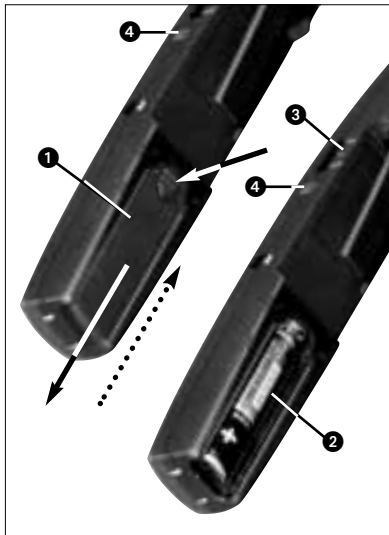

Fig. 2: Inserting the battery.
Refer to fig. 2:
1. Depress the snap hook on the battery compartment lid (1).
2. Pull the battery compartment lid (1) down to remove it from the transmitter.
**Important:** The foam pad on the inside of the battery compartment lid (1) holds the battery in place. Do not remove the foam pad. If you do, the battery will not be held in place properly and may cause a rattling noise.
4. Insert the supplied or new battery (2) into the battery compartment as shown in fig. 2.
5. Set the ON/MUTE/OFF switch (3) to ON.